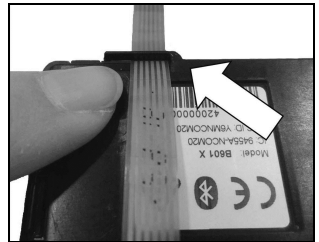

Fig. 8
- Secure the keypad flex in the specials stop (Fig. 8).